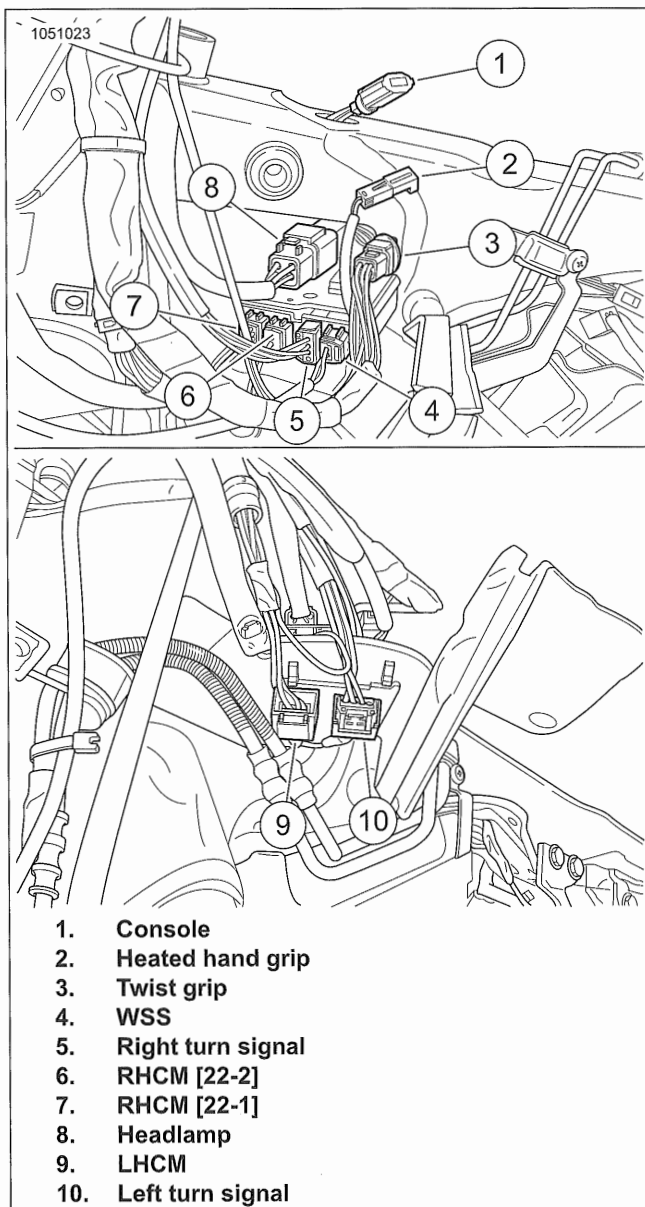

Figure 7-158. Front Electrical Caddy Connectors
3. See Figure 7-158. Remove frame plug and front electrical caddy.
- b. See Figure 7-158. Connect all connectors in front electrical caddy.